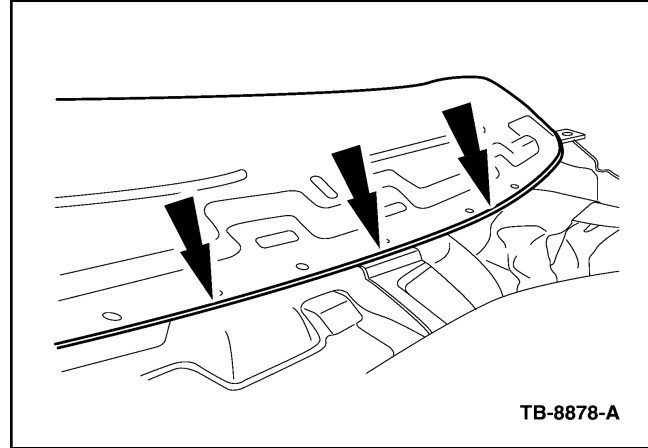

Figure 2 - Article 08-26-7
- a. To ensure a water tight seal, apply a small amount of Motorcraft Seam Sealer to the pinch weld and work into seam with fingertip, leaving a small amount on the edge, especially near the windshield center bracket area. (Figure 2)